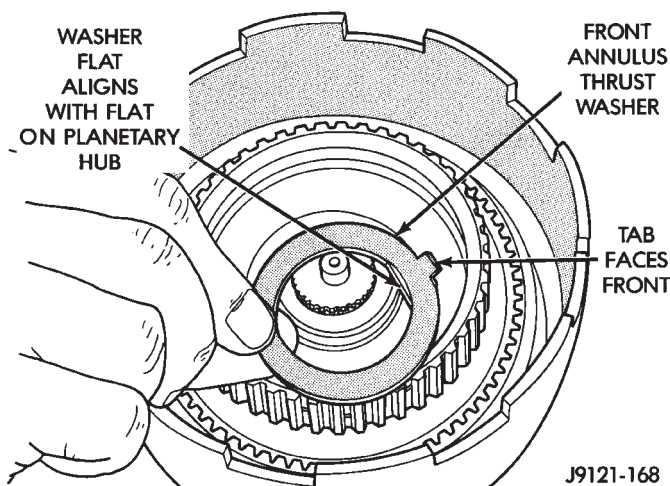

Fig. 161 Installing Front Annulus Thrust Washer
(19) Install thrust washer in front annulus (Fig. 161). **Align flat on washer with flat on planetary hub. Also be sure washer tab is facing up.**